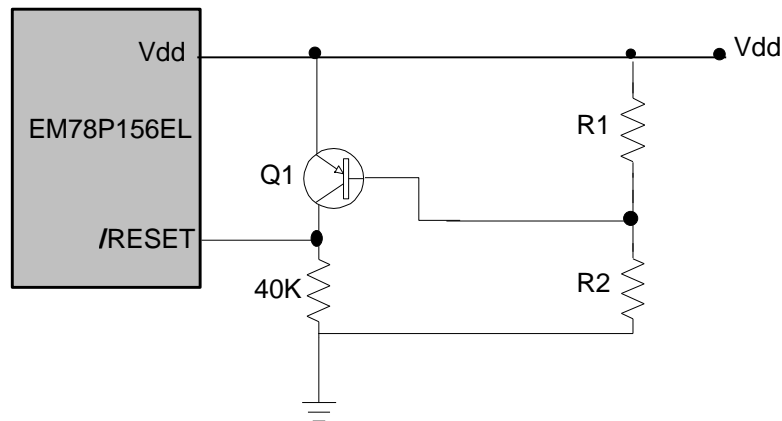

Figure 16 Circuit 2 for the Residue Voltage Protection
The circuit shown in Figure 16 implements an external RC to produce the reset pulse. The pulse width (time constant) should be kept long enough for V_{DD} to reach minimum operation voltage. This circuit is used when the power supply has slow rise time. Because the current leakage from the /RESET pin is about $\pm 5\mu\text{A}$, it is recommended that R should not be greater than 40 K. In this way, the /RESET pin voltage is held below 0.2V. The diode (D) acts as a short circuit at the moment of power down. The capacitor C will discharge rapidly and fully. R_{in}, the current-limited resistor, will prevent high current or ESD (electrostatic discharge) from flowing to pin /RESET.